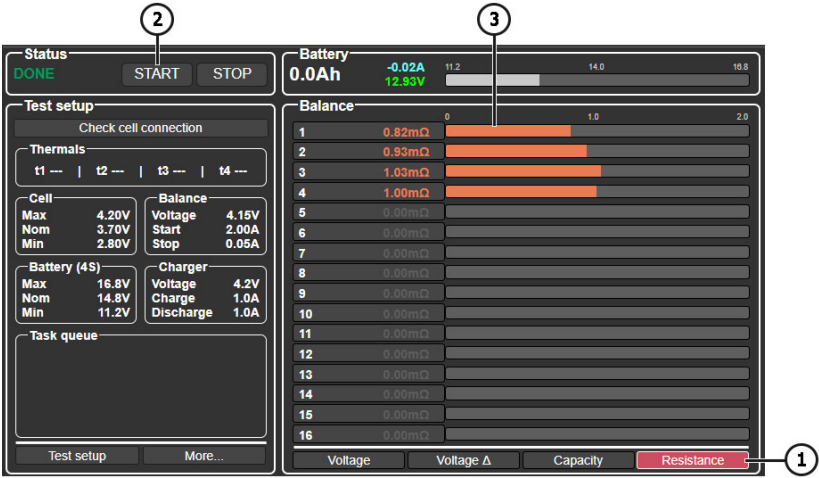

Figure 20
- 3. In the **main menu**, switch to the internal resistance display mode by pressing the "Resistance" button (see Fig. 20).
- 4. To **start the test**, press the "Start" button in the main menu (position 2 in Fig. 20). After a few seconds, the test results will be displayed (position 3 in Fig. 20).